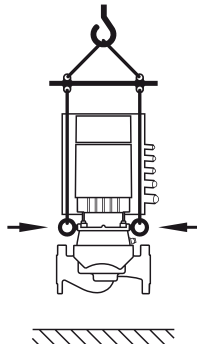

Fig. 7: Transporting the pump
- The pump must be transported using approved load-bearing equipment (e.g. block and tackle, crane, etc.). These are to be attached to the transport eyes at the motor flange (Fig. 7, shown here: lifting direction with vertical motor shaft).